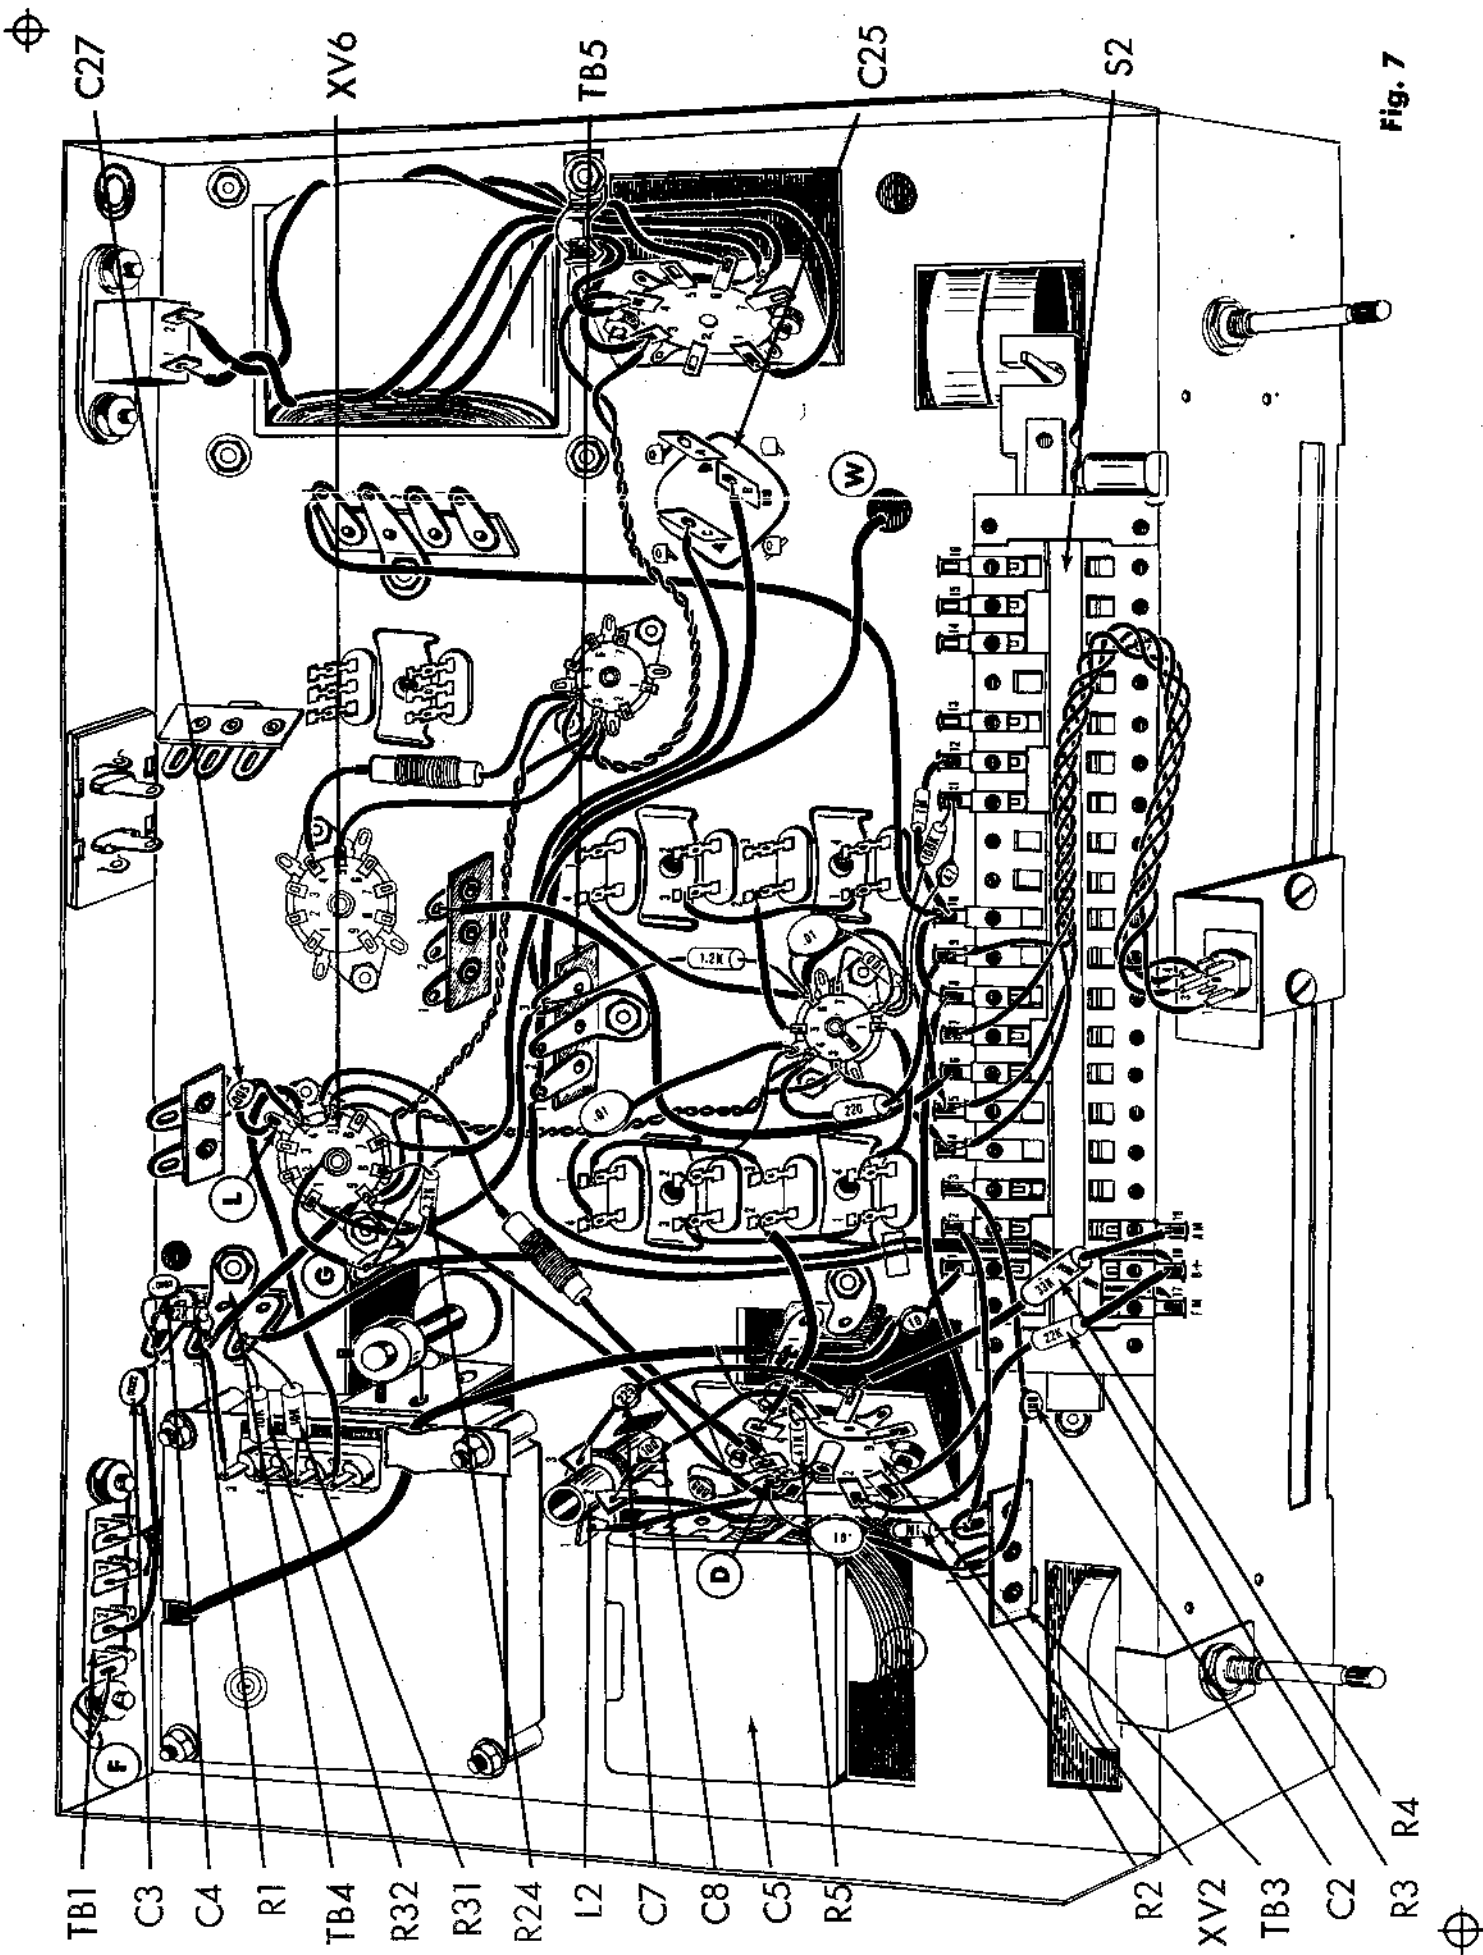

Fig. 7
(✓) 1. Fig. 7. Bend XV2-3 to the center lug on XV2.
(✓) 2. Fig. 7. Cut both leads on a 47K (yellow, violet, orange, silver) resistor, R5, to 1/2". Connect from XV2-7 (C) to the center lug C on XV2.
(✓) 3. Fig. 7. Connect a 3/4" piece of bare wire from the center lug (S3) on XV2 to ground lug "D" (S4) on XV2.
(✓) 4. Fig. 7. Cut both leads on a 100 mfd disc capacitor, C8, to 3/4". Cover each lead with a 1/2" piece of spaghetti. Connect from L2-2 (S2) to XV2-7 (S3).
(✓) 5. Fig. 7. Cut both leads on a 225 mfd disc capacitor, C7, to 1". Cover each lead with a 3/4" piece of spaghetti. Connect from L2-3 (S1) to XV2-8 (C).
(✓) 6. Fig. 7. Cut both leads on a 1M (brown, black, green, silver) resistor, R2, to 1/2". Connect from XV2-2 (C) to TB3-2 (S2).
(✓) 7. Fig. 7. Cut both leads on a 100 mfd disc capacitor, C2, to 1 1/4". Cover each lead with a 1" piece of spaghetti. Connect from TB3-1 (C) to S2-3 (S1).
(✓) 8. Fig. 7. Cut both leads on a 22K (red, red, orange, silver) 1 watt resistor, R3, to 1". Cover each lead with a 3/4" piece of spaghetti. Connect from XV2-1 (S2) to S2-18 (S2).
(✓) 9. Fig. 7. Cut both leads on a 33K (orange, orange, orange, silver) 1 watt resistor, R4, to 1". Cover each lead with a 3/4" piece of spaghetti. Connect from XV2-8 (S2) to S2-19 (S1).
(✓) 10. Fig. 7. Connect one end of a 3" piece of grey wire to TB3-1 (S2). Push the other end through rectangular hole "Z" next to the variable capacitor C5 to the top of the chassis.
(✓) 11. Fig. 7. Connect a 3" piece of white wire from XV2-2 (S2) to S2-2 (S1).
(✓) 12. Fig. 7. Cut all leads on two 10K (brown, black, orange, silver) 1 watt resistors, R31 and R32, to 1/2". Connect R31 from TB4-1 (C) to lug #2 (S1) on the FM Front End Assembly. Connect R32 from TB4-1 (S3) to lug #4 (S1) on the FM Front End Assembly. Do not use too much heat or it will melt the insulation on the FM Front End Assembly.
(✓) 13. Fig. 7. Connect a 1 3/4" piece of brown wire from TB4-2 (C) to lug #3 (S1) on the FM Front End Assembly. Do not use too much heat or
(✓) 14. Fig. 7. Connect a 3/4" piece of bare wire from TB1-1 (S1) to ground lug "F" (S1).
(✓) 15. Fig. 7. Strip back 1/2" from both ends of a 2" piece of 300Ω twin lead. Connect one lead from one end to TB1-3 (S1) and the other lead from the same end to TB1-4 (S1). Without twisting the lead, push the remainder of the lead through hole "Y".
(✓) 16. Fig. 7. On a .0022mfd (2.2K or 2000mfd) disc capacitor, C3, cut one lead to 1 1/2" and the second lead to 1". Cover the 1 1/2" lead with a 1 1/4" piece of spaghetti and connect to TB1-2 (S1). Connect the second lead to TB4-3 (C). Note that capacitor leads do not touch any metal component or screw.
(✓) 17. Fig. 7. Cut both leads on a 22K (red, red, orange, silver) resistor, R1, to 1/2". Connect from TB4-2 (C) to TB4-3 (C).
(✓) 18. Fig. 7. Cut both leads on a .0022mfd (2.2K or 2200mfd) disc capacitor, C4, to 1/2". Connect from TB4-2 (S4) to TB4-3 (C).
(✓) 19. Fig. 7. Connect a 4" piece of red wire from XV6-1 (S1) to TB5-3 (C).
(✓) 20. Fig. 7. Connect a 5" piece of red wire from TB5-1 (C) to C25-8 (C).
(✓) 21. Fig. 7. Connect a 4" piece of red wire from TB5-3 (C) to C25-C (C).
(✓) 22. Fig. 7. Cut both leads on a 2.2K (red, red, silver) resistor, R24, to 1/2". Connect from XV6-8 (S1) to ground lug "G" (C) at XV6.
(✓) 23. Fig. 7. Connect a 1 1/4" piece of black wire from the center post on XV6 (S1) to ground lug "G" (C) on XV6.
(✓) 24. Fig. 7. Cut both leads on a .005 mfd (5K or 5000mfd) disc capacitor, C27, to 1/2". Connect from XV6-4 (S3) to ground lug "L" (S1) on XV6.
(✓) 25. Fig. 7. On one end of a 9" piece of shielded cable, strip the outer insulation back 3/4". Twist the shield strands together. Strip off 1/4" of the insulation from the inner conductor. Connect the inner conductor to XV6-7 (S1) and the outer shield to ground lug "G" (S3).